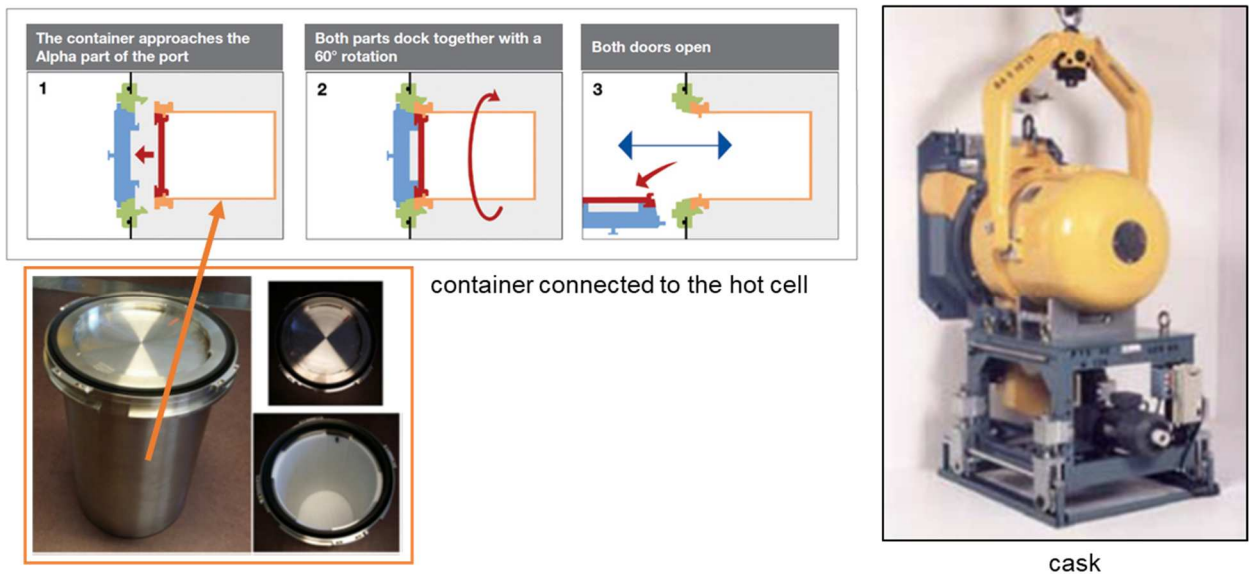

Figure 3: Container and cask used for transferring secured bottle
- It must not lead to any major modification to the structures of the shielded lines. This means that the secured bottle has to be placed in or removed from the shielded line using the same system as that used for solid radioactive waste, i.e. a stainless steel container to avoid contamination and a cask for radiation protection (Cf. figure 3).